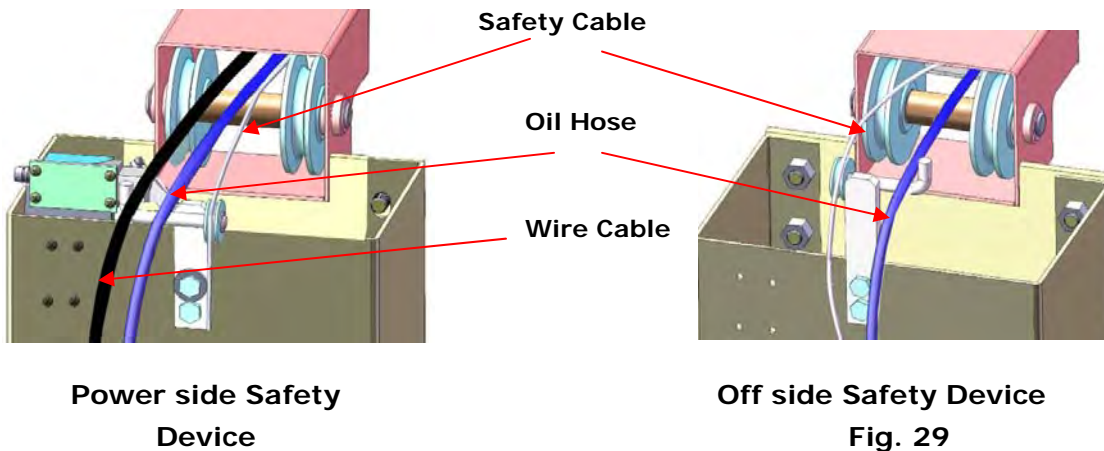

**Fig. 27**
**M. Install Safety Cable (See Fig. 27)**